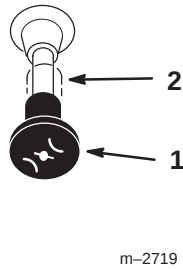

Figure 20
4. Move the choke control to the on position before starting a cold engine (Fig. 20).
7. After the engine starts, move the choke to the off position (Fig. 20). If the engine stalls or hesitates, move the choke back to on for a few seconds. Then move the throttle lever to desired setting. Repeat this as required.